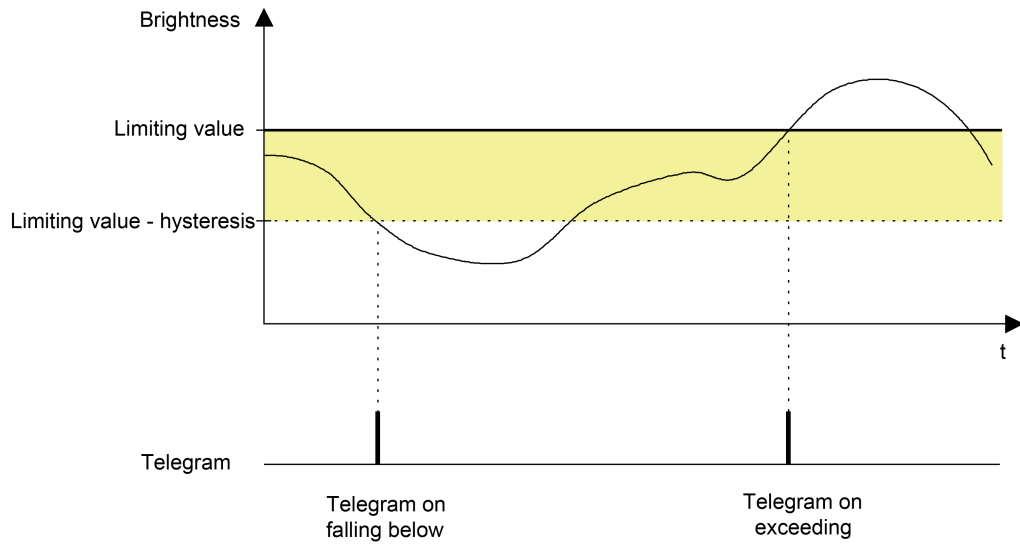

Figure 53: Example 1 of the limiting value definition
1. Brightness limiting value = Upper threshold (figure 53)